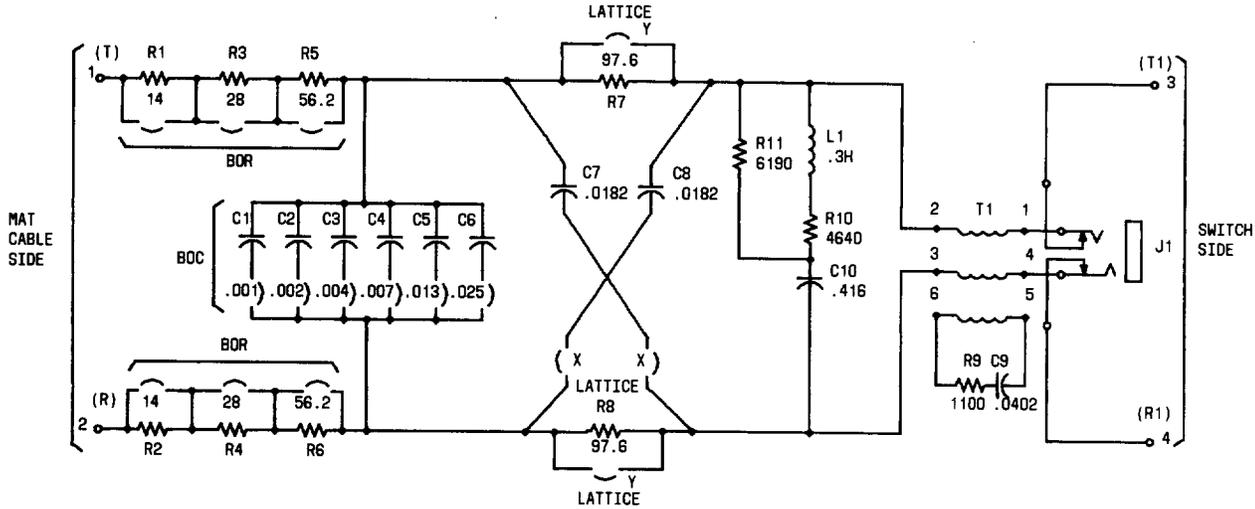

Fig. 2—Schematic of the 837J
3.01 A schematic of the 837J network is shown in Fig. 2. Terminals 1 and 2 connect to the MAT cable facility and terminals 3 and 4 connect to the trunk equipment.